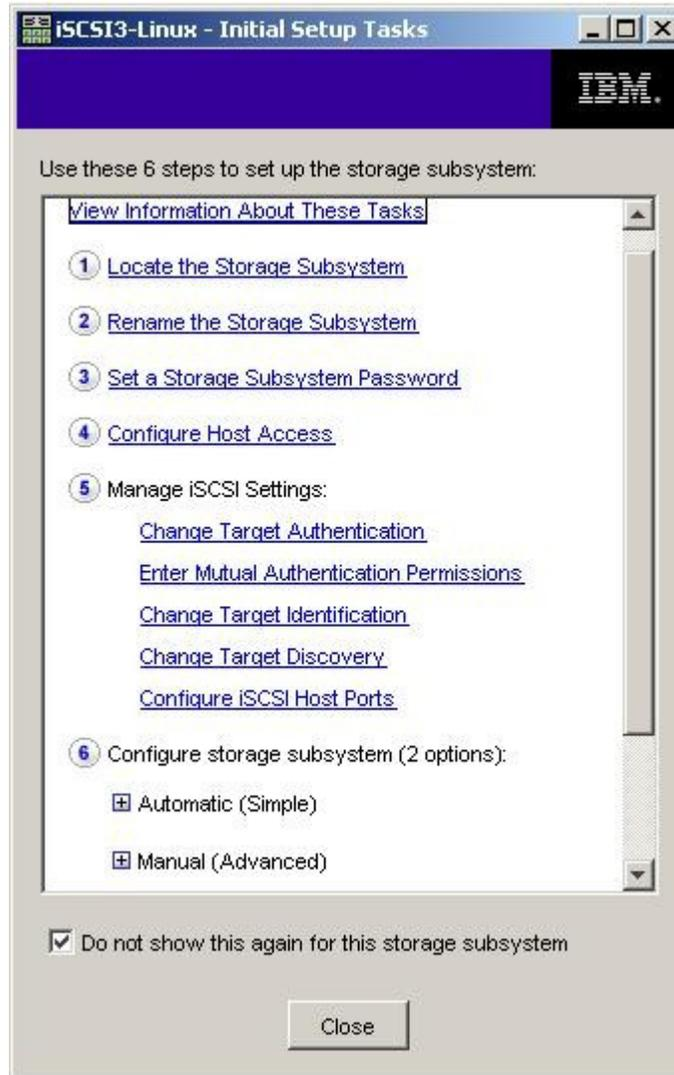

Figure 17. Initial Setup Tasks window in the Subsystem Management window
3. On the **Summary** page, click **Perform Initial Setup Tasks**. The Initial Setup Tasks window opens, as shown in Figure 17.